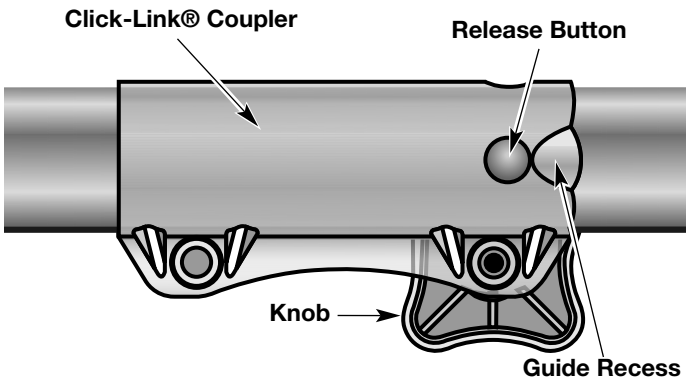

Fig. 11
1. Turn the knob counterclockwise to loosen (Fig. 11).
2. Press and hold the release button (Fig. 11).
1. Turn knob counterclockwise to loosen (Fig. 11).
- NOTE:** Aligning the release button with the guide recess will help installation (Fig. 11).